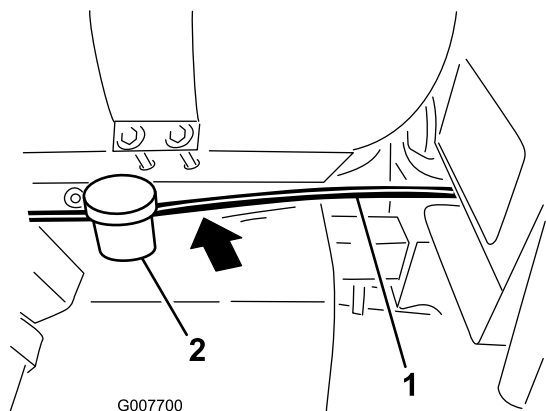

Figure 10
2. Route the hose from the foam marker bracket forward, below the chemical tank and behind the fuel tank, along with existing wiring to the area under the seat box (Figure 10).